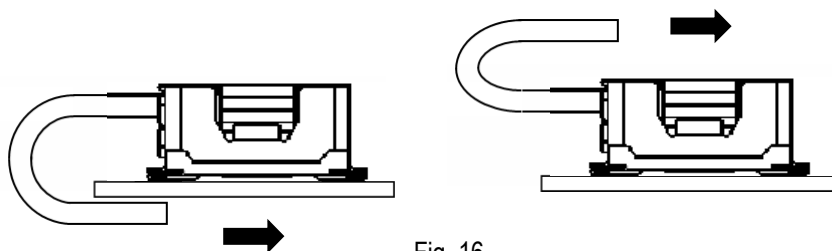

Fig. 16
- Continuous force of the direction shown in black arrow in Fig.16 can damage connectors or cause the coming off from receptacle connector. Please be careful NOT to apply such force.